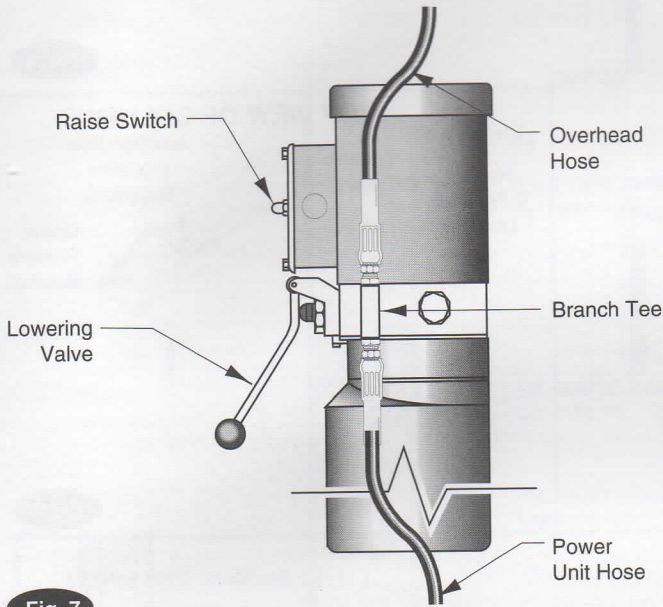

Fig. 7
9. Power Unit: First install (1) star washer onto one of the (4) $\frac{5}{16}$ " x $\frac{3}{4}$ " Lg. bolts. **This is very important for grounding.** Put the (4) $\frac{5}{16}$ " x $\frac{3}{4}$ " lg. bolts thru holes in power unit bracket using push-nuts to hold in place. Mount unit with motor up to column bracket and install lock washers and nuts. Install and hand tighten Branch Tee to pump until O-ring is seated. Then tighten locknut to 35-40 ft.-lbs, and connect supply hoses to Tee, Fig. 7.